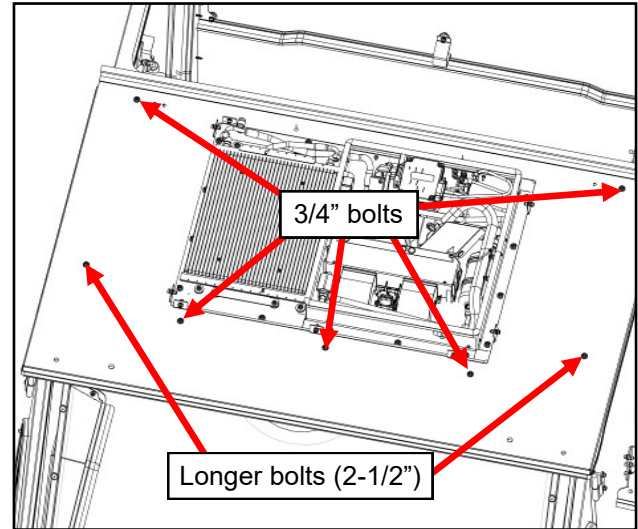

Fig. 12.2 Front Canopy
12.2 Per figure 12.2, place the front canopy on top of the cab and align to the holes in the headers and windshield support. Insert the longer 1/4-20 bolts with plastic washers through the outer, front holes in the canopy, through the holes in the ROPS and through the lower flange of the headers and secure with nuts. Insert shorter 1/4-20 bolts with plastic washers through the remaining holes through the canopy as shown and secure with nuts.